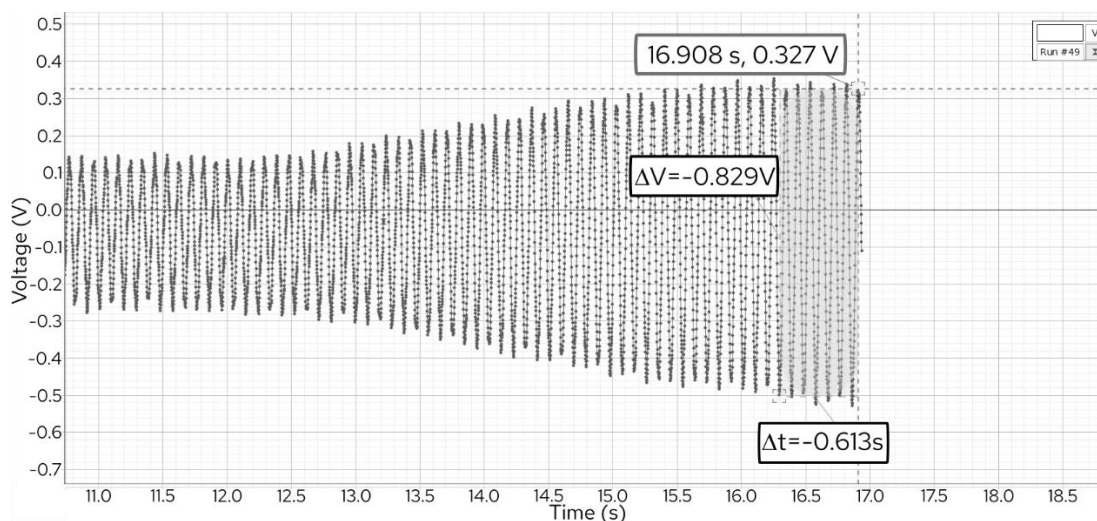

Figure 10. Sample Resonance Recording. Note that the amplitude grows for several seconds before reaching a constant value.
- When the amplitude has stopped varying1, use the Show Delta tool to measure the amplitude. See Fig. 10 for an example: the amplitude is 0.415 V (=0.829 V divided by 2). Record the value in your notebook.